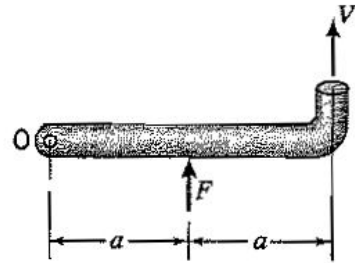

Figure P3.14
3.14 Find the force F required to prevent rotation of the pipe shown in Figure P3.14 about the vertical axis located at the point O . The pipe diameter is D , and the fluid density is ρ .